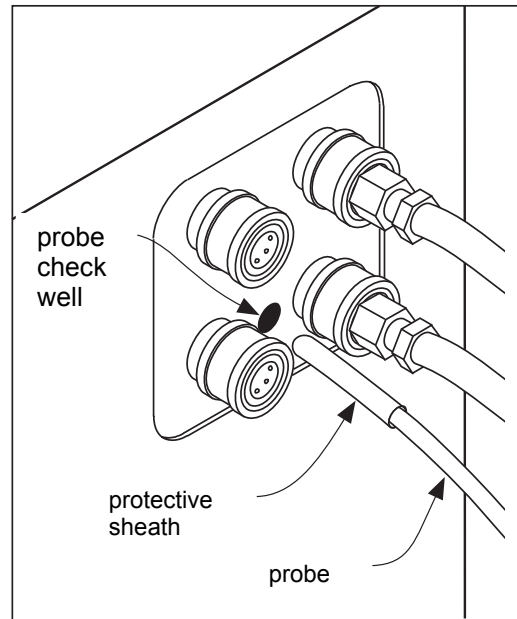

Figure 7—Probe Check Well
1. Insert probe into protective sheath and then into *PROBE CHECK WELL* on front of machine base (fig. 7).